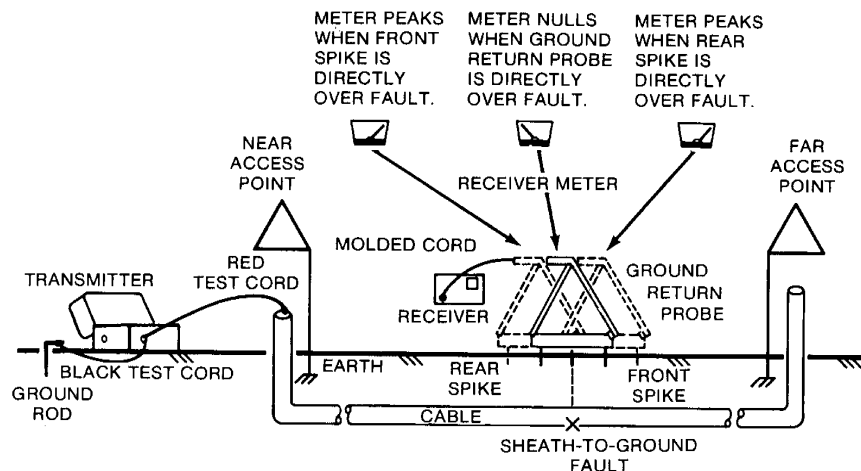

Figure 5-1.
3. Connect the black test cord clip to the ground rod (see Figure 5-1).
4. Plug the jack end of the red/black test cord into the TRACING TONE jack receptacle on the transmitter (see Figure 5-1).